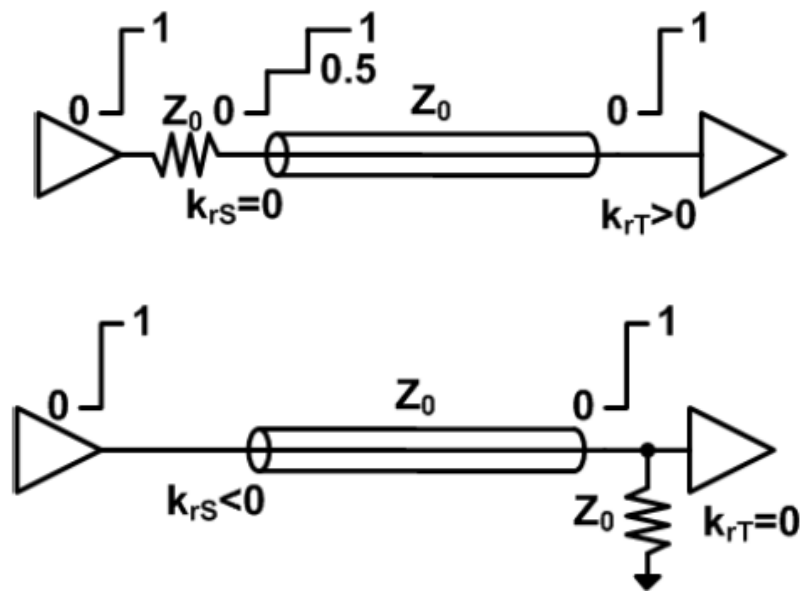

Figure 9 Source and Receiver Termination Schemes
2. Please comment on the pros and cons of source termination and receiver termination schemes as shown in Figure 9.